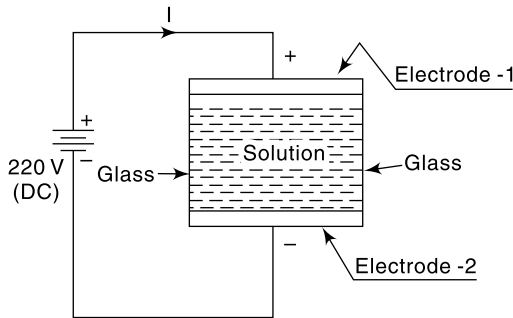

Fig. 14.1
14.6 A solution of resistivity $22 \Omega \text{ cm}$ is poured to fill a glass container whose top and bottom ends are made up of two electrodes (Fig. 14.1). A dc voltage of 220 V is applied across the electrodes when the power absorbed by the liquid solution is 22 kW . If the area of each electrode is circular and of 100 cm^2 value, find the distance between the electrodes. Neglect the thickness and resistance of the electrodes.